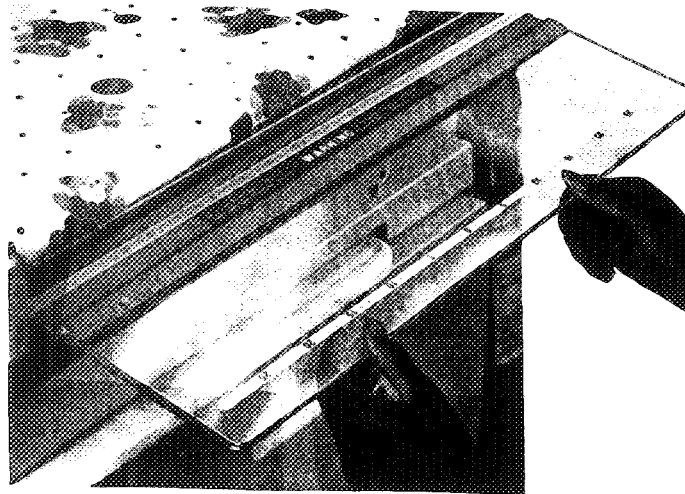

FIGURE 4.5 CHECKING THE BASSINET SIDE PANELS
2. **CHECK THE BASSINET SIDE PANELS** (Figure 4.5) by raising each panel and pivoting it to hang straight down. Return the panel by reversing the procedure. Check that the panel is positively engaged to confine the infant.